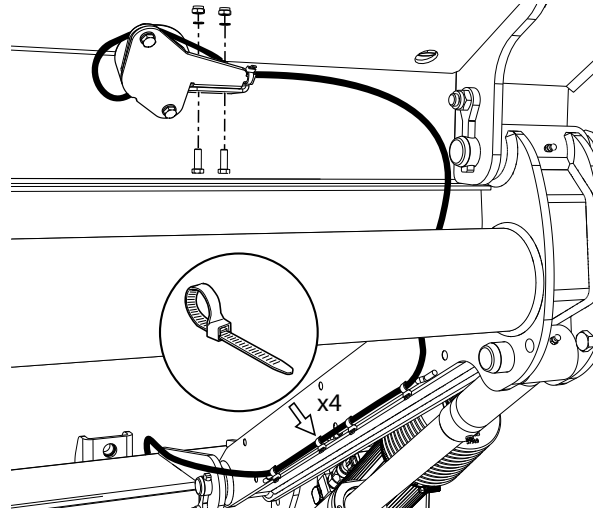

Figure 56. Installing the angle sensor
1. Install the angle sensor on the platform using the nuts, bolts and washers supplied and attach the cable using cable ties; see. Figure 56.